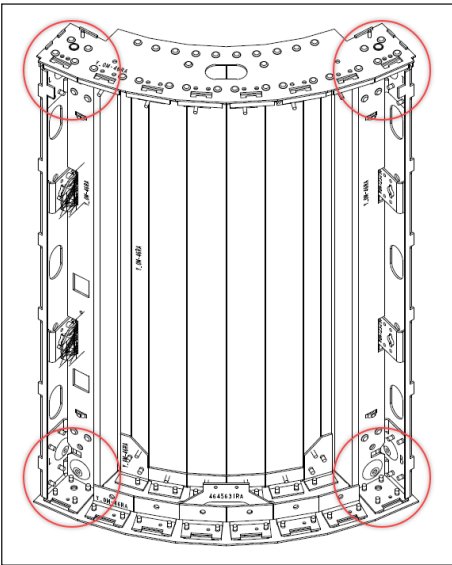

Figure 3: Attach Panel to Tube
1. Insert one self-drilling screw and one M6 jacking bolt into the four corners of the panel. Refer to **Figure 3**.